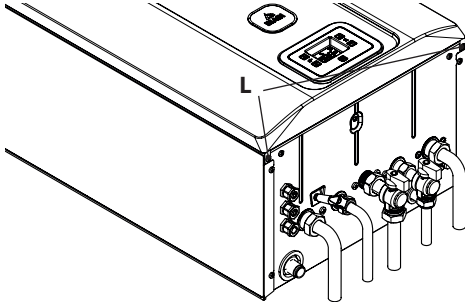
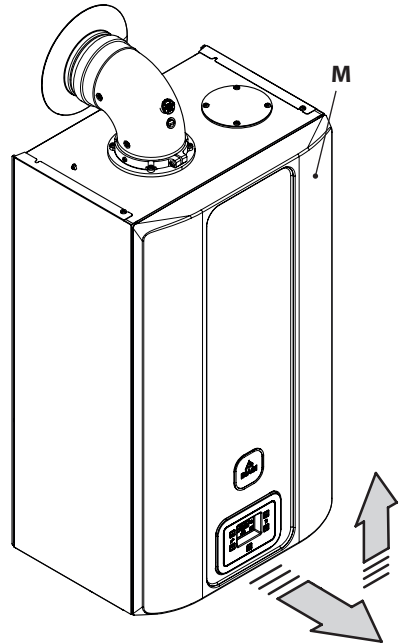

Figure 5.17
Figure 5.18
- Unscrew the screws **L** (Figure 5.17) and remove the front panel **M** by pulling it towards you and then pushing it upwards in order to release it from the top fastenings Figure 5.18.